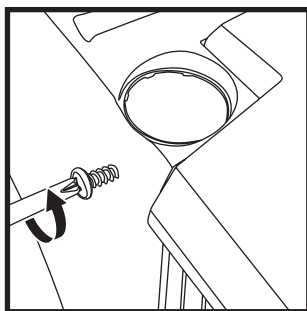

Fig. 1
1. Loosen screws (9) on both side, do not remove completely (Fig. 1).